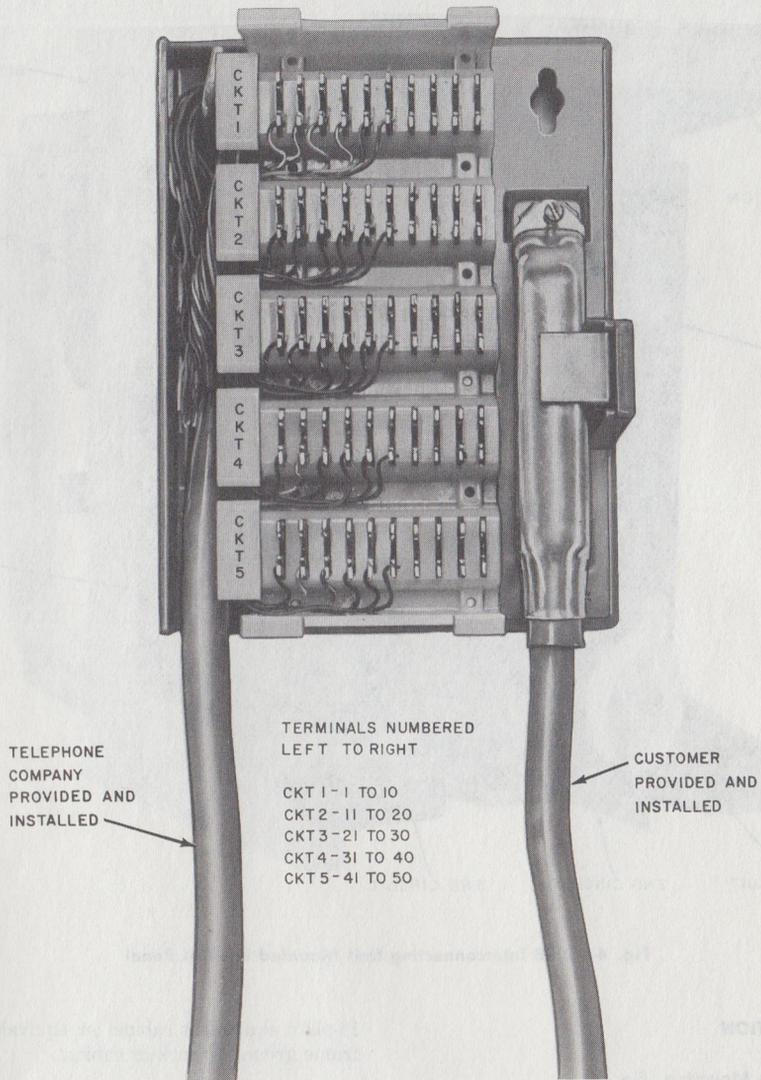

Fig. 3—66E3-25 Interface Connecting Block (Optional)
- Block, Connecting, 66E3-25 (optional, Fig. 3)
**3.08** As a customer option, the 66E3-25 interface connecting block may be used and located not further than 200 feet from the equipment. The 66E3-25 block provides an Amphenol connector for up to five lines. The customer must terminate the CPE using an Amphenol No. 57-10500-7 plug, Cinch No. 223-32-50-023 plug, or equivalent. When using the 66E3-25 optional interface connecting block, refer to Fig. 3 and Table F for terminal and pin numbers.